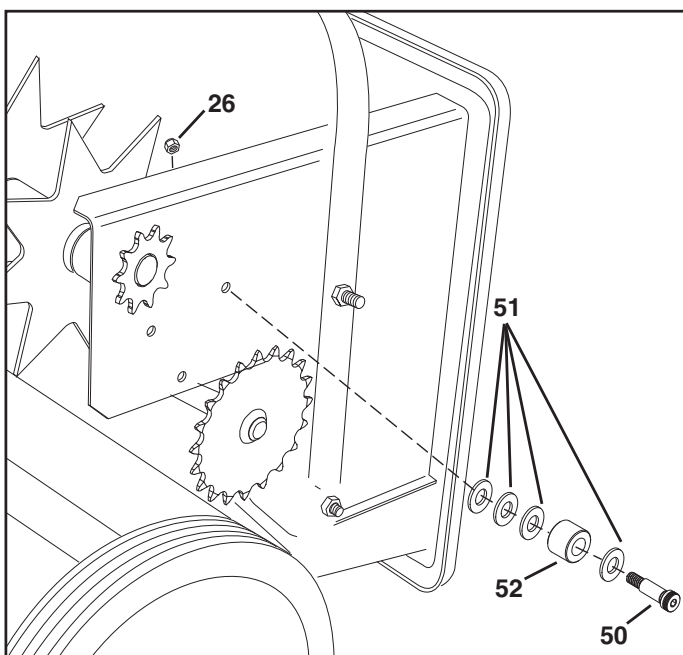

FIGURE 24
- Place a 11/32" washer (51), spacer (52), and then three 11/32" washers (51) onto the 1/4" shoulder bolt (50). See figure 24.
- Then install the bolt assembly through the left end plate. Secure bolt with a 1/4" hex nylock nut (26). Tighten hardware but make sure the spacer (52) is able to spin freely. See figure 24.